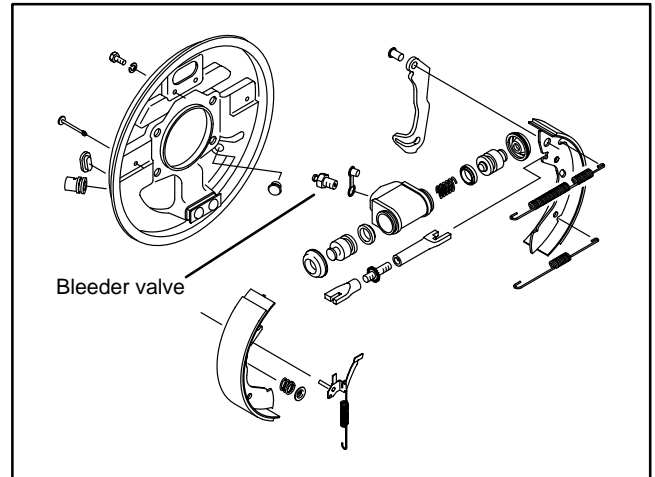

Figure 11
4. Remove dust covers (Fig. 11, Item 1), pistons (Item 2), seals (Item 3) and spring (Item 4). Discard dust covers and seals.